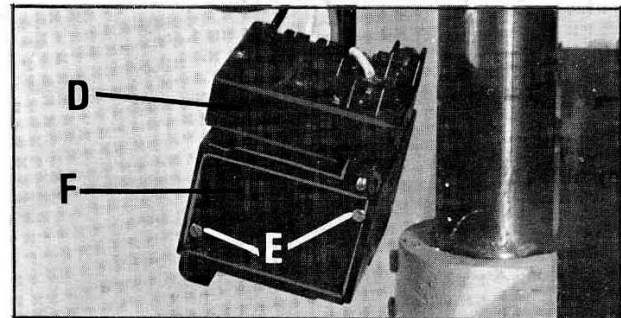

Fig. 31
4. Fig. 31, illustrates the starter and overload block (D) removed from the switch box. Remove two screws (E) Fig. 31 and hold plate (F) so it will not spring out. Carefully remove plate (F) Fig. 31.